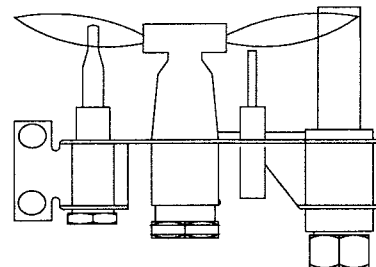

Figure 25. Pilot Burner
- Adjust pilot key to provide properly sized flame. (See figure 25).